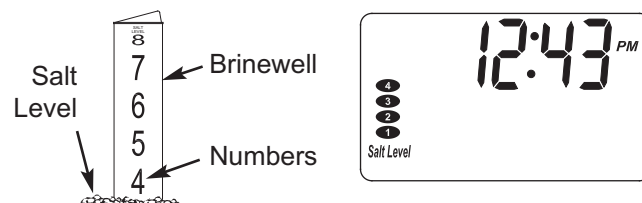

FIG. 26
3. Press the SET SALT LEVEL button until black ovals correspond to the salt level number (See Figure 26). At level 2 or below, the "Check Salt Level" LED indicator will flash.